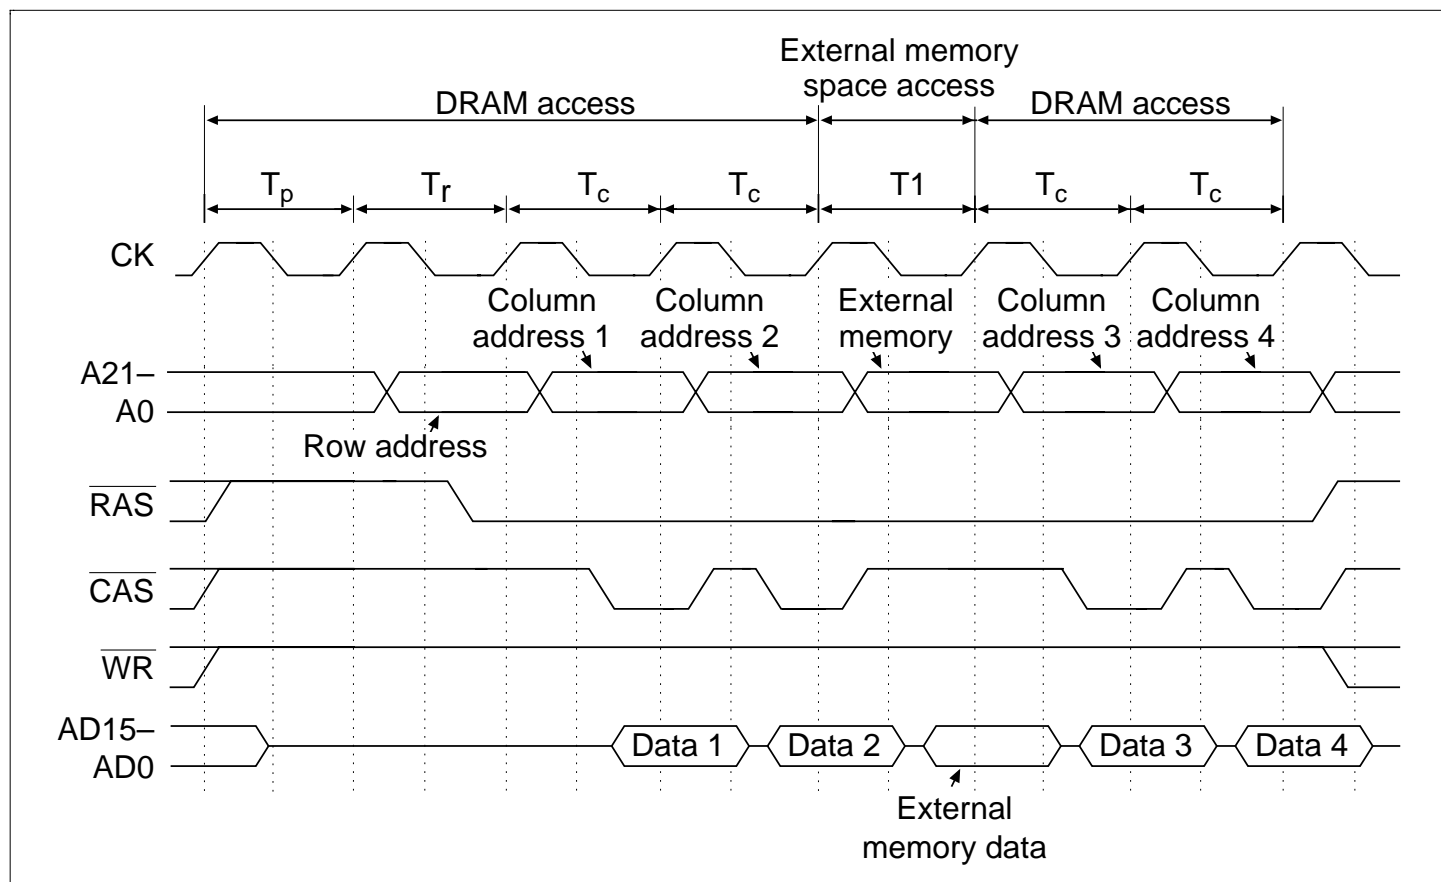

Figure 8.27 RAS Down Mode
- **RAS down mode:** When the RASD bit in DCR is set to 1, the DRAM access pauses and the $\overline{\text{RAS}}$ signal is held low throughout the access of the other space while waiting for the next access to the DRAM area. When the row address for the next DRAM access is the same as the previous DRAM access, burst operation continues. Figure 8.27 shows the timing of RAS down mode when external memory space is accessed during burst operation.